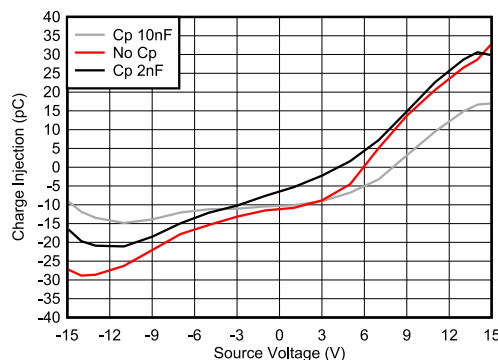

Figure 8-2. Charge Injection Compensation
The TMUX7219M contains specialized architecture to reduce charge injection on the source (S_x). To further reduce charge injection in a sensitive application, a compensation capacitor (C_p) can be added on the drain (D). This will ensure that excess charge from the switch transition will be pushed into the compensation capacitor on the drain (D) instead of the source (S_x). As a general rule, C_p should be 20× larger than the equivalent load capacitance on the source (S_x). Figure 8-2 shows charge injection variation with source voltage with different compensation capacitors on the drain side.